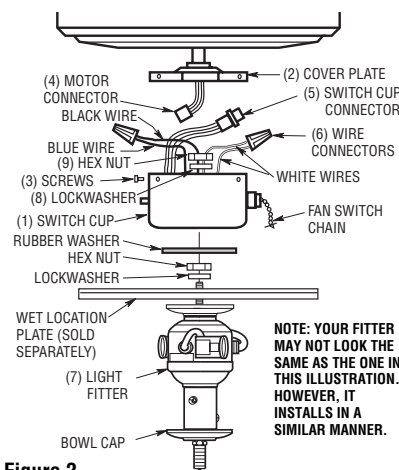

Figure 2
6. If installing in a wet location: Install the black and white wires from the light fitter through the center hole of the supplied wet location plate and secure with supplied lockwasher and hex nut. Place the large rubber washer onto the threaded fitter nipple and allow it to rest on top of the plate (Figure 2).
7. Insert the black and white wires from the light fitter (7) through the center hole in the switch cup (1) (Figure 2) and thread the switch cup onto the light
8. Insert the black and white wires through the lockwasher(8) and hex nut(9) supplied. Firmly tighten the hex nut to secure the light kit fitter to the switch cup.
9. Connect the white neutral wire from the switch cup to the white neutral wire of the light fixture (Figure 2). Connect the blue line (hot) wire from the switch cup to the black line (hot) wire of the light fixture. Use listed wire connections (previously removed in step 5) to make connections (Figures 2 and 3). The neutral and line (hot) wires must be installed as instructed to maintain proper polarity at the lampholders.
10. Carefully tuck all wires and splices into the switch cup(1). (Figure 2.)
11. Connect the motor connector(4) to the switch cup connector(5).
12. Position the switch cup(1) and fitter assembly(7) on the cover plate(2) and install the three screws(3) that were previously removed in Step 2 and tighten securely.